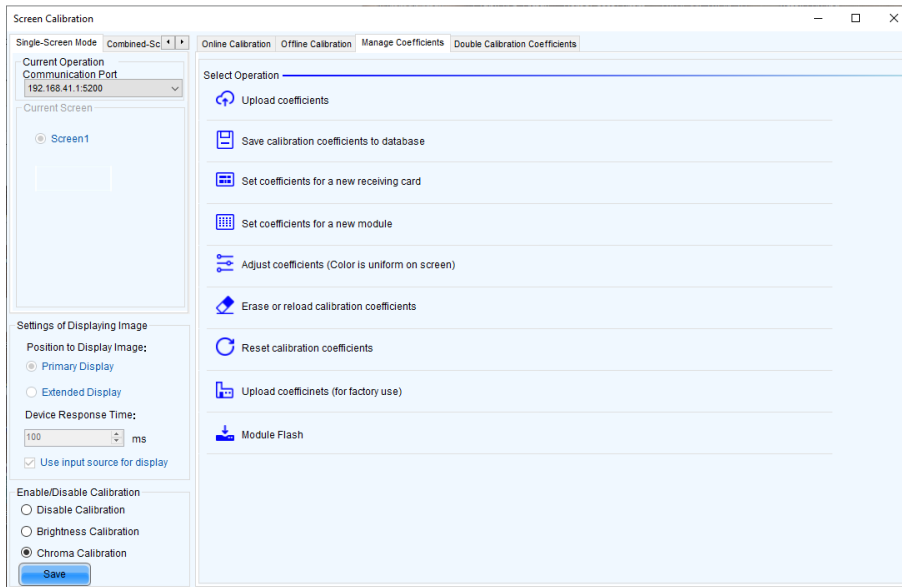

Figure 81: Screen Calibration – Register Manage Coefficients
Step 4) Click on the **Manage Coefficients** tab (see Figure 81).